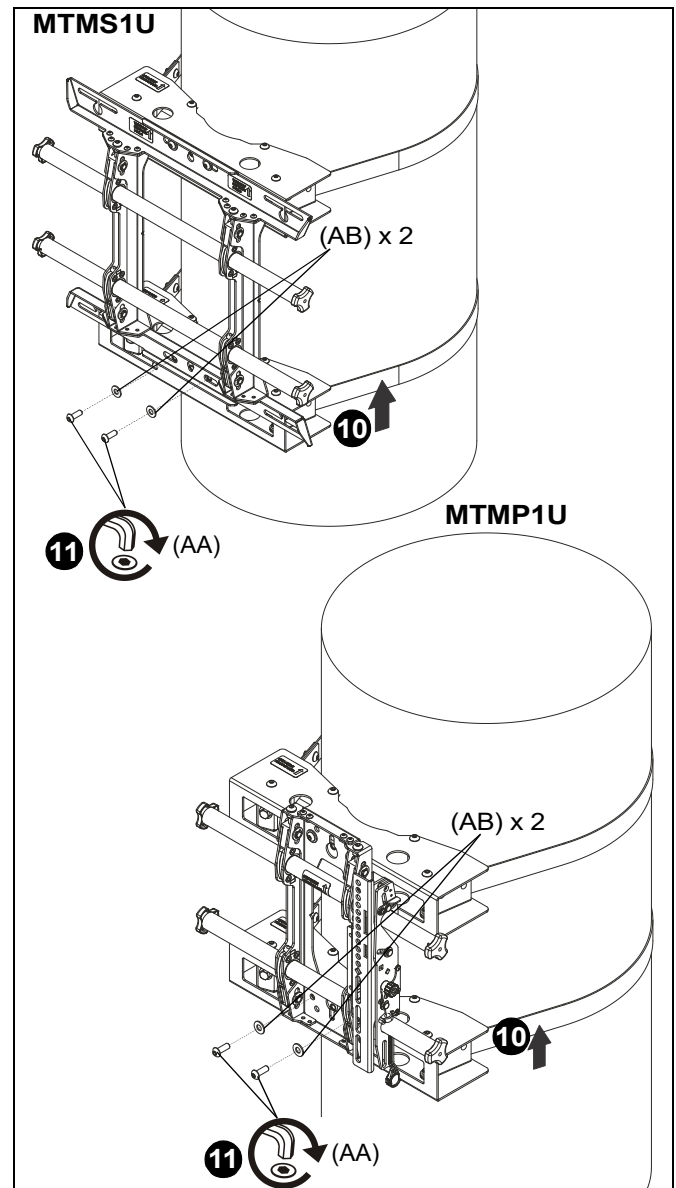

Figure 6
10. Install lower column clamp (D) following Steps 1-4, aligning it with the lower mounting hole on mount. (See Figure 6)
11. Use two 5/16-18 x 7/8" button head cap screws (AA) and two .750x.350x.060 spacers (AB) to secure mount to lower column clamp (D). (See Figure 6)